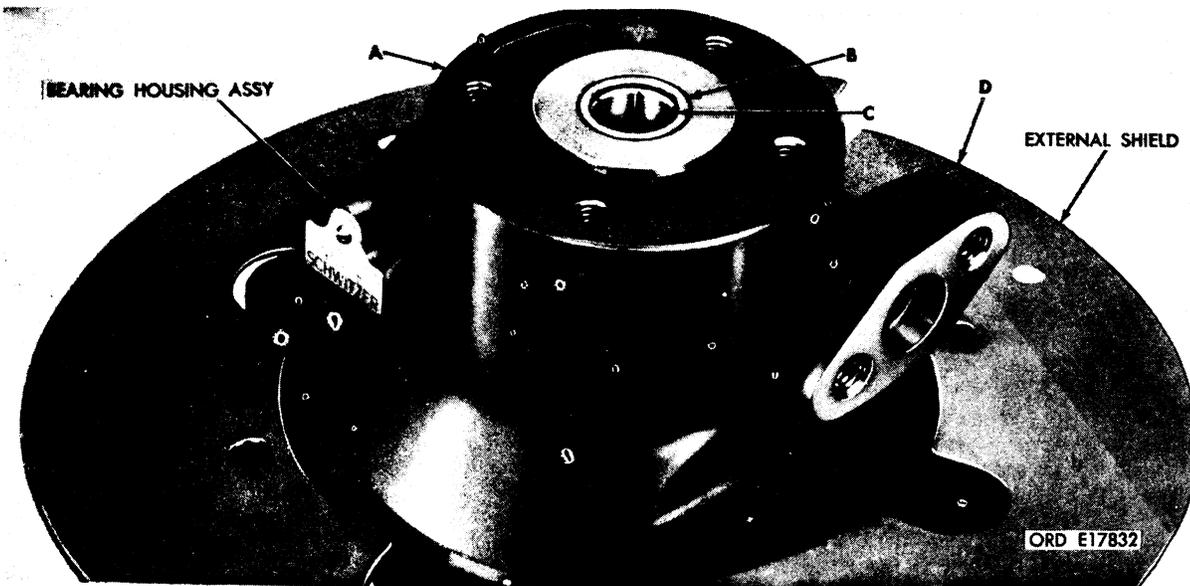

**FIGURE 31. REMOVING FRONT AND REAR OIL RETAINERS AND ASSOCIATED PARTS - TURBOCHARGERS 10912638 AND 53591-C-139552.**
b. Refer to figure 31. Remove front oil retainer (A), thrust ring (B), thrust bearing